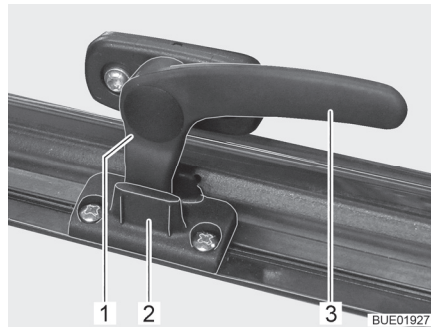

Fig. 12 Catch lever in "continuous ventilation" position
- "Continuous ventilation" (Fig. 12)
- Turn the catch lever (Fig. 12,3) a quarter turn towards the centre of the window.
- Turn the catch lever a quarter turn towards the window frame. The locking catch (Fig. 12,1) has to be moved into the recess of window catch (Fig. 12,2).